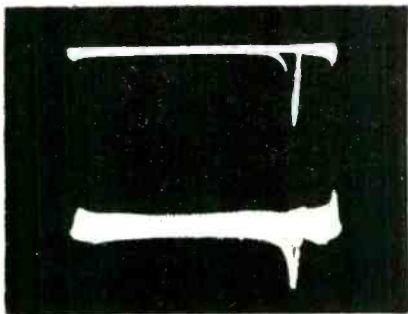

Fig. 11—Horizontal and vertical sync pulse derivative display.
A. A display of this type is shown in Fig. 11. The principal portion of the pattern is a 60-cycle derivative of the vertical sync pulse, which appears